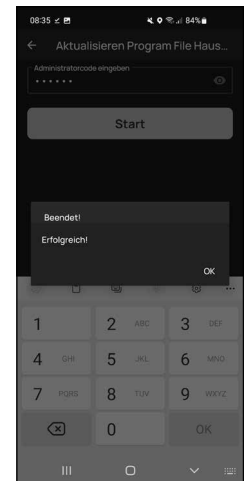

Fig. 13
- ⑫ After a short moment, a message appears informing you that the data has been transmitted. Confirm with "OK" (Fig. 13).